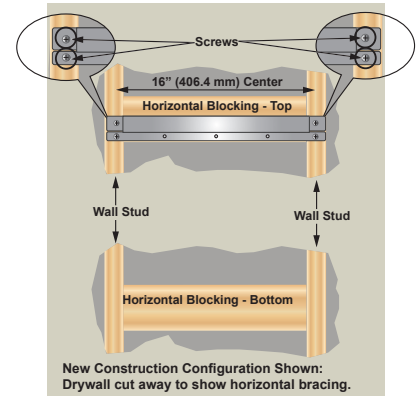

Figure 6 - Wall bracket installation.
1. Secure the wall mounting bracket with the four supplied lag bolts to the wall studs. See Figure 6. DO NOT secure to the drywall only. NOTICE: The supplied fasteners are for wood studs only. When